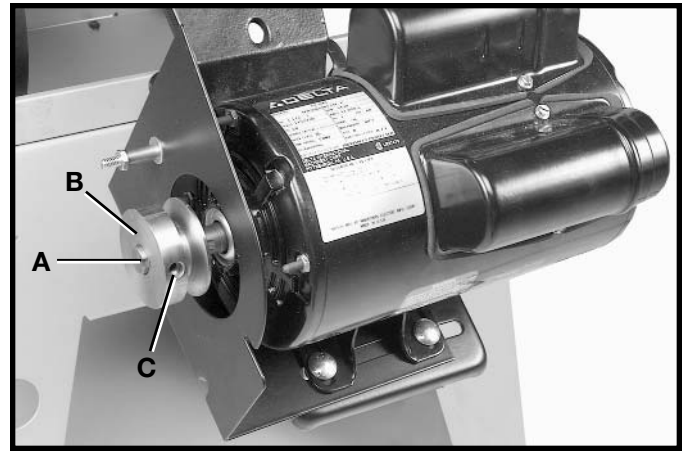

Fig. 19
2. Insert the key (A) Fig. 19, in the keyway on the motor shaft. Assemble the motor pulley (B) on the motor shaft as shown, with the hub of the pulley facing out. Tighten set screw (C) against key (A) in motor shaft.